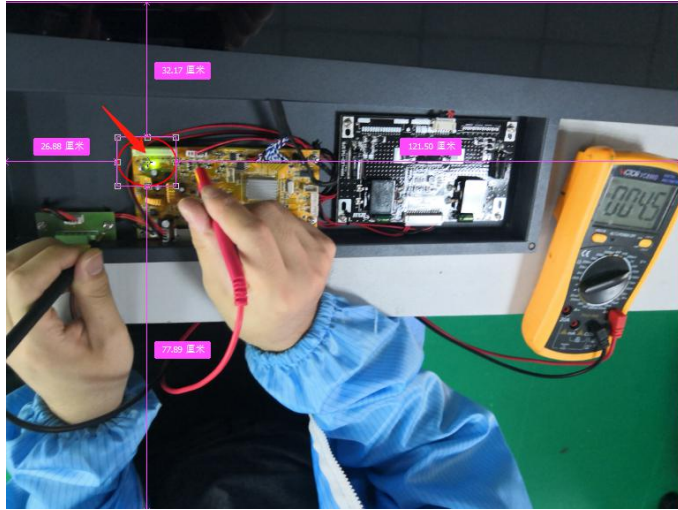

Figure 1
1. Turn on the power and check if the yellow light indicated by the arrow in Figure 1 is on. Check whether the power board is normally powered on or not.